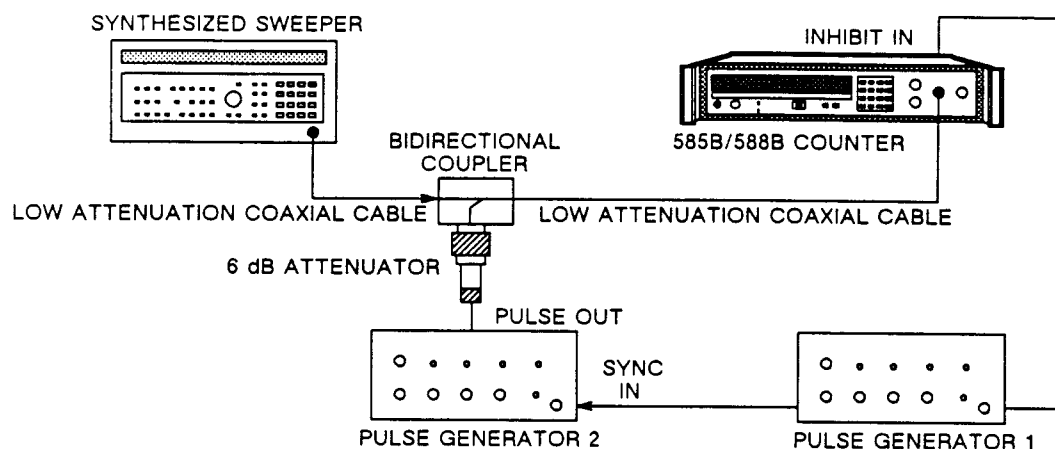

Figure 8-17. Band 2 Maximum Video Test Setup.
1. Connect equipment as shown in Figure 8-17 and turn equipment on.